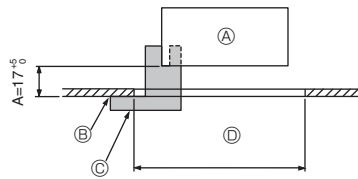
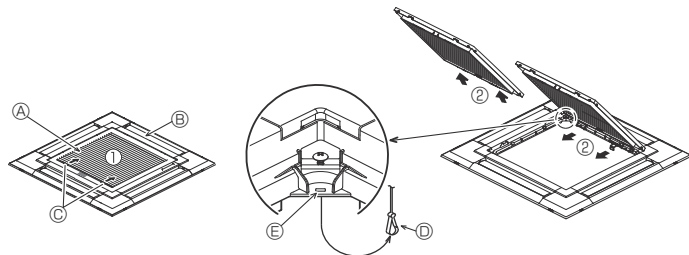
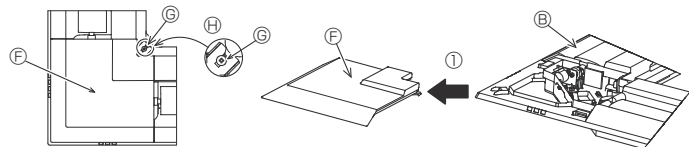

Fig. 9-2
Fig. 9-3
Fig. 9-4
①	Grille	1	950 × 950 (mm)
②	Installation gauge	1	(Divided into 4 parts)
③	Screw (4 × 16)	1	For PLP-6EAE, PLP-6EAELE, PLP-6EALME
④	i-see Sensor corner panel	1	For PLP-6EAE, PLP-6EAELE, PLP-6EALME
⑤	Wireless remote controller	1	For PLP-6EALM, PLP-6EALME
⑥	Remote controller holder	1	Included when equipped with the wireless remote controller.
⑦	LR6 AA batteries	2	Included when equipped with the wireless remote controller.
⑧	3.5 × 16 tapping screws	2	Included when equipped with the wireless remote controller.
9.2. Preparing to attach the grille (Fig. 9-2)
- With the gauge ② supplied with this kit, adjust and check the positioning of the main unit relative to the ceiling surface. If the main unit is not properly positioned relative to the ceiling surface, it may allow air leaks or cause condensation to collect.
- Ⓒ Installation gauge ② (inserted into the main unit)
9.2.1. Removing the intake grille (Fig. 9-3)
- Slide the levers in the direction indicated by the arrows ① to open the intake grille.
- With the intake grille in the "open" position, remove the hinge of the intake grille from the grille as indicated by the arrows ②.
9.2.2. Removing the corner panel (Fig. 9-4)
- Loose the 4 screws on the corner. Slide the corner panel in the direction of the arrow ① in the figure and remove the corner panel.
[Fig. 9-3] [Fig. 9-4]